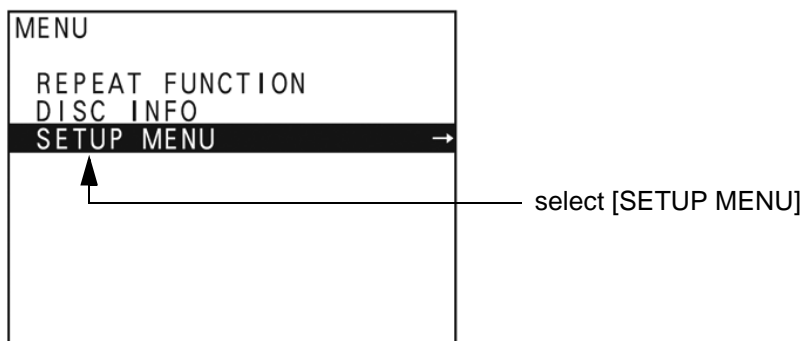

Figure 3-16 “Main Menu” - [SETUP MENU] highlighted
- 3.) The “Main Menu” appears on the LCD screen of the DVD recorder, see: Figure 3-16 below.